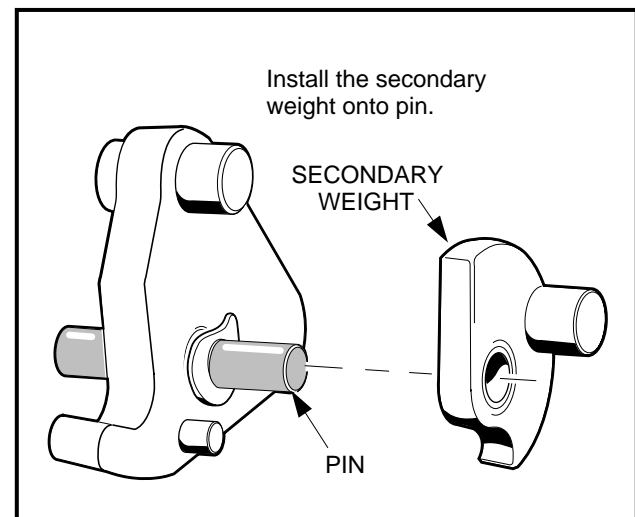

Figure 17-13 Install Secondary Weight
9. Install the secondary weights onto the mounting pins with the weight pins on the secondary weights pointing away from the primary weights. The wave washers should be between the primary and secondary weights (**Figure 17-13, Page 17-10**).